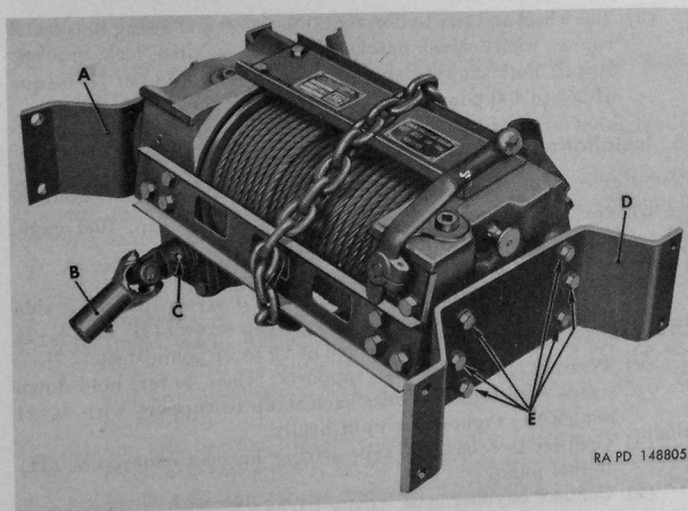

Figure 45. Winch assembly.
- (1) Install right and left support brackets ((D) and (A), fig. 45) on which with special bolts ((E), fig. 45) and  $\frac{3}{16}$ -inch lock washers.
- (2) Install front universal joint ((B), fig. 45) on splines of winch shaft and insert shear pin ((C), fig. 45) through joint and shaft. Secure shear pin with two cotter pins.
- (3) Supporting winch with chain fall, guide winch with support brackets attached (fig. 45) between frame side members. As winch is pushed toward rear, guide front universal joint splines onto front drive shaft splines.